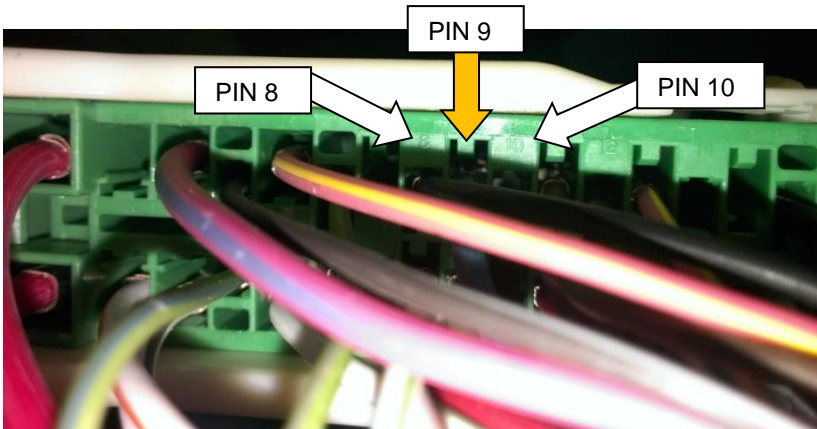

Figure 47 – Locating key switched power
- There are numbers printed on the back side of the connector. Locate pin 9, it has a pink wire with a yellow stripe. This is the key switched +12 V wire (Figure 47).